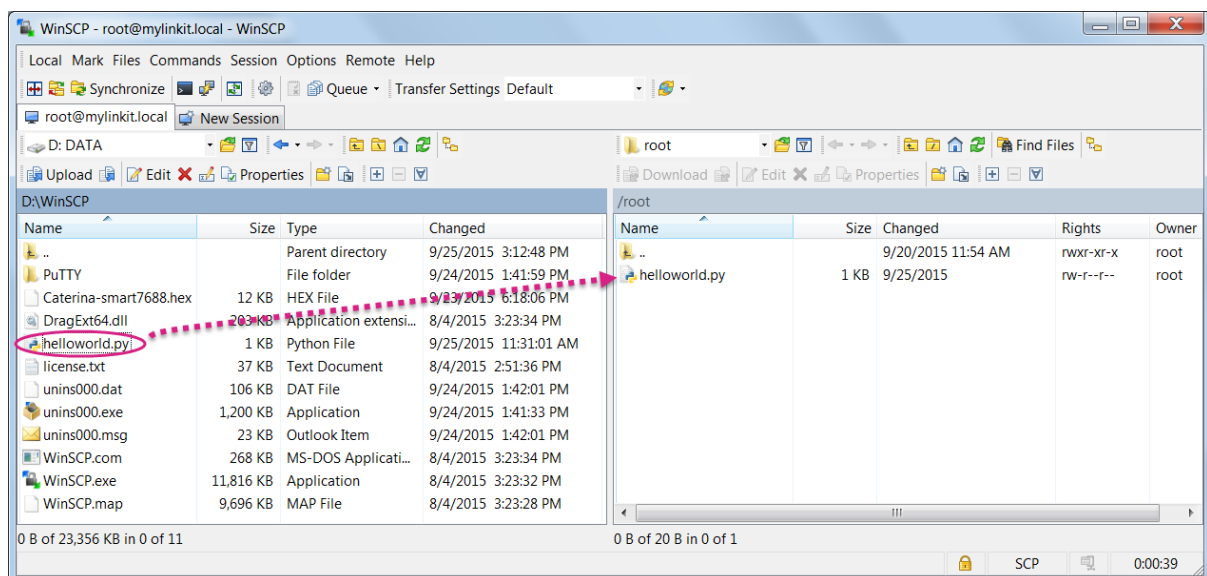

Figure 35 File transfer using WinSCP
- c) Locate the file you want to transfer on the left pane (your computer) and drag it to the right (LinkIt Smart 7688), as shown in Figure 35.